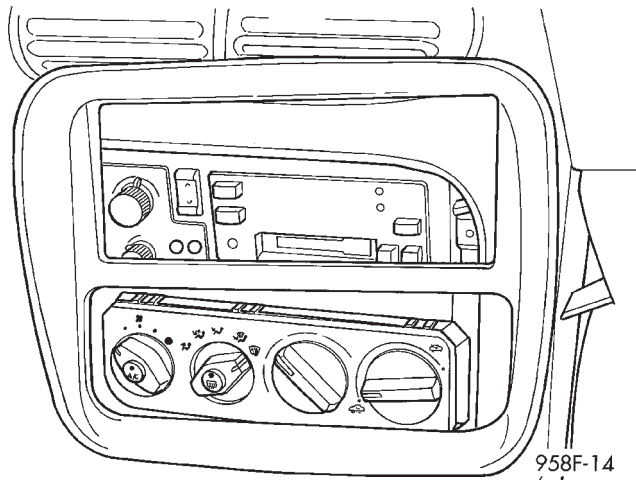

Fig. 6 Center Bezel
Pull center bezel straight rearward along the sides of the radio and A/C control openings to disengage four clips (Fig. 6).
- (1) Remove instrument panel left end cap.
- (2) Tilt steering column down to its lowest position.
- (3) Remove instrument panel center bezel by disengaging the four clips (Fig. 6).
- (1) Remove center bezel by pulling rearward to disengage four clips and remove attaching screws from cubby bin (Fig. 6).
- (2) Remove the HVAC control attaching screws. Pull the control out to disconnect two electrical connectors and two control cables. Remove HVAC control.